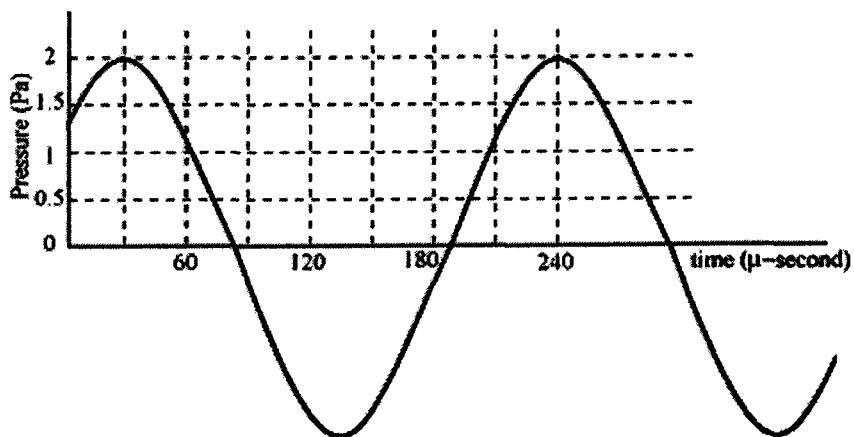

Figure Q4[a]
- Q4. [a]** A measurement of acoustic pressure is shown in Figure Q4[a]. If the wave that travelling in air is represented as $p(x,t) = Ae^{j(\omega t-kx)}$, determine the amplitude A, angular velocity ω , wave number k , wavelength λ and the sound pressure level (SPL).